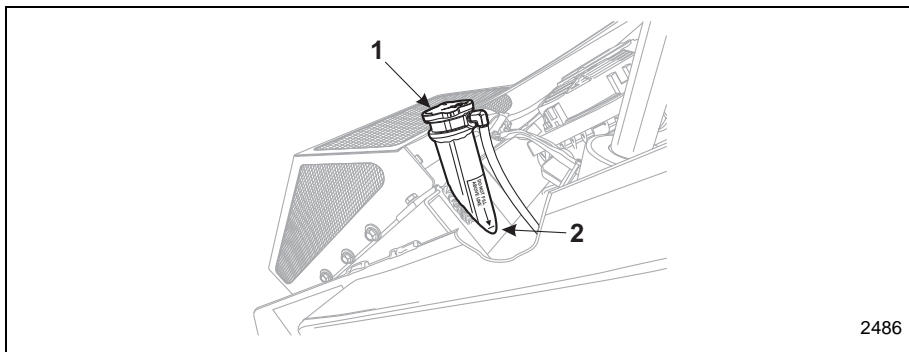

Figure 3-4 Engine Coolant Level Check
- When the radiator is cool to the touch, remove the radiator cap (Item 1, Figure 3-4) and check the radiator fluid level. The proper coolant level is indicated by the Max Fill line on the decal (Item 2, Figure 3-4) located on the radiator filler tube.